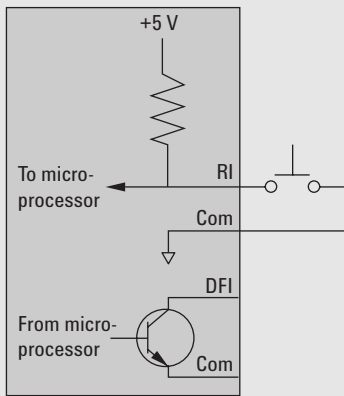

Figure 1. Remote inhibit and discrete fault indicator schematic
Remote inhibit (RI) is an input to the power supply that disables the output when the RI terminal is pulled low (Figure 1). Shorting the normally open switch turns off the supply's output. You could also use a logic chip with an open collector transistor output instead of the switch. Figure 1 also shows a discrete fault indicator (DFI) that you can use to signal an operator or other components in the system when the power supply detects a user-defined fault.